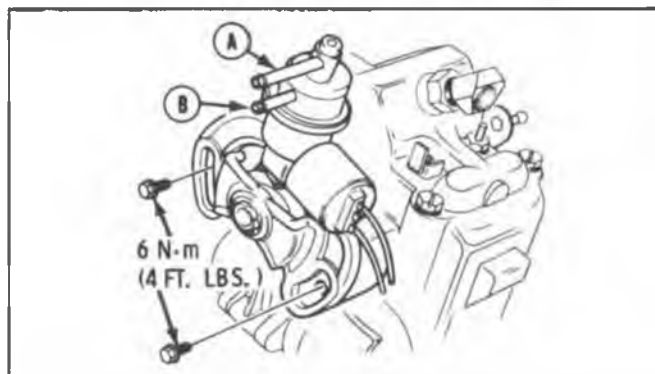

Fig. 2-17 Vacuum Regulator Valve
9. Attach vacuum source such as BT-7517 or J-2378 vacuum pump to port A. Install vacuum gage to port B. Apply 61-74 kPa (18-24 inches) of vacuum to port A (Fig. 2-17).